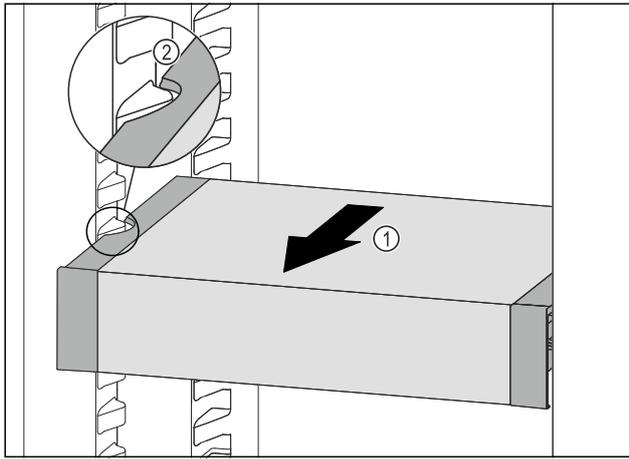

Fig. 108
- ▶ Pull VarioSafe forward Fig. 108 (1) until the recesses in the side of the VarioSafe are at the level of the support rib in the refrigerator compartment. Fig. 108 (2)